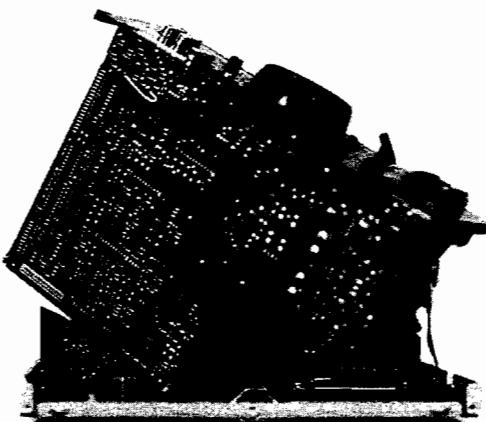

Fig. 3
4. Confirm the main P.C. board as shown in the Fig. 3